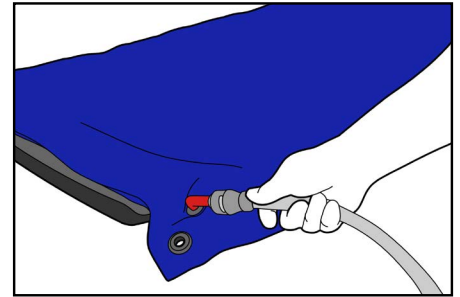

Fig. 7
1. Attach the vacuum hose to the valve. When you hear an audible 'click', this will ensure that a proper connection has been made and the hose and valve have been fitted properly (Fig. 7).